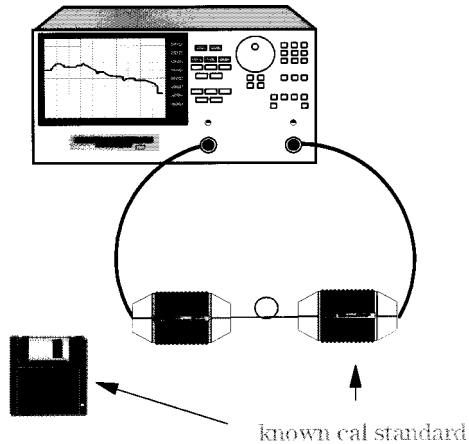

Figure 3-4. Phase Distortion CAL Test Setup
- 1 Connect the system as shown in **Figure 3-4**.